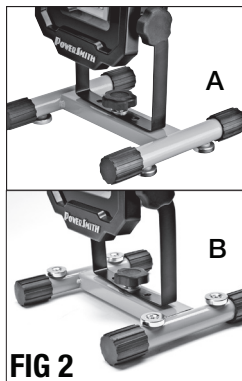

FIG 2
ATTACHING THE WORK LIGHT HEAD TO THE STAND (FIG 2)
This work light comes with a reversible stand. It can stand either on the magnetic feet or on the rubber feet by flipping the stand over. See FIG 2.
1. Place the stand (9) on a flat surface.
2. Position the U-Shaped bracket (3) of the work light head against the stand (9) as shown in FIG 2.
3. Use the locking knob (6), flat washer and spring washer to secure the work light head on the stand.